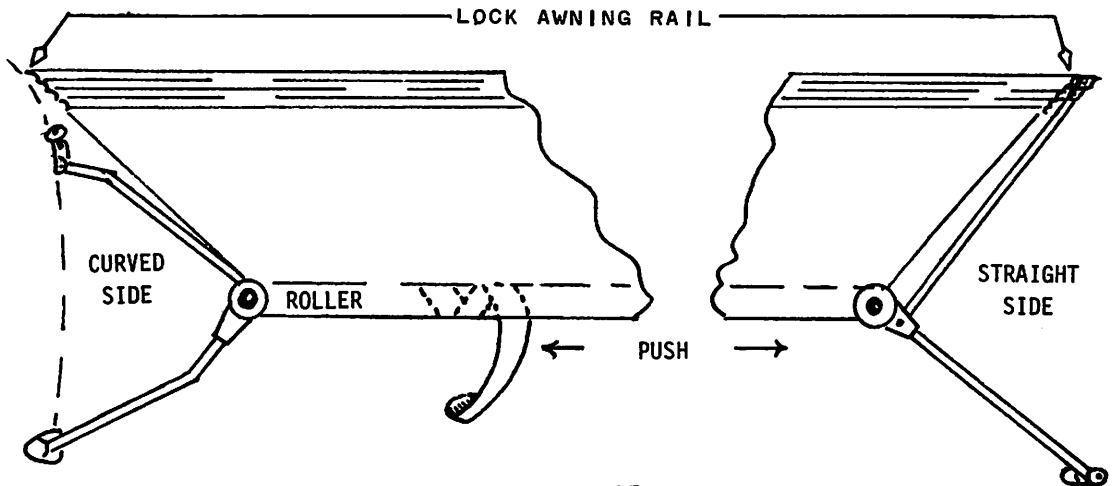

Fig. 15
**NOTE:** The tab must be spiraled around the roller as shown in (Fig. 15). This prevents a loose roll and bunching up of fabric.